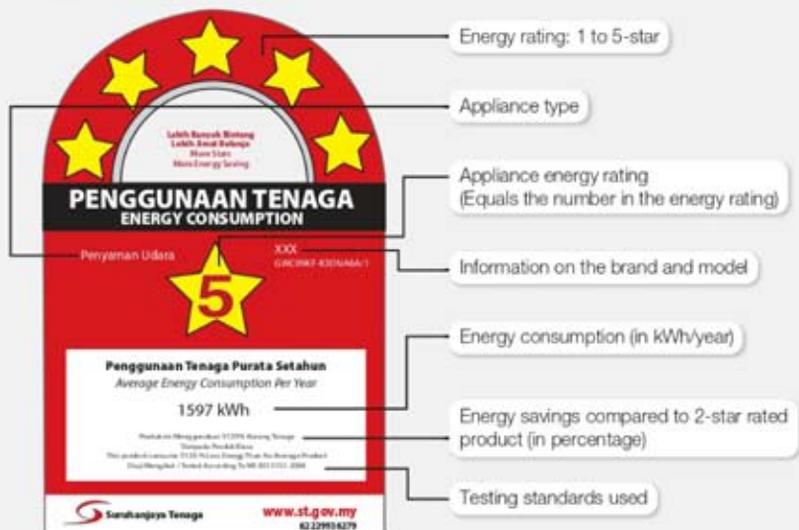

Figure 6.36 Energy efficiency label introduced by the Energy Commission (EC)
Do you know how we can identify an energy efficient electrical appliance? Have you ever seen the energy efficient label introduced by the Energy Commission (EC) shown in Figure 6.36?